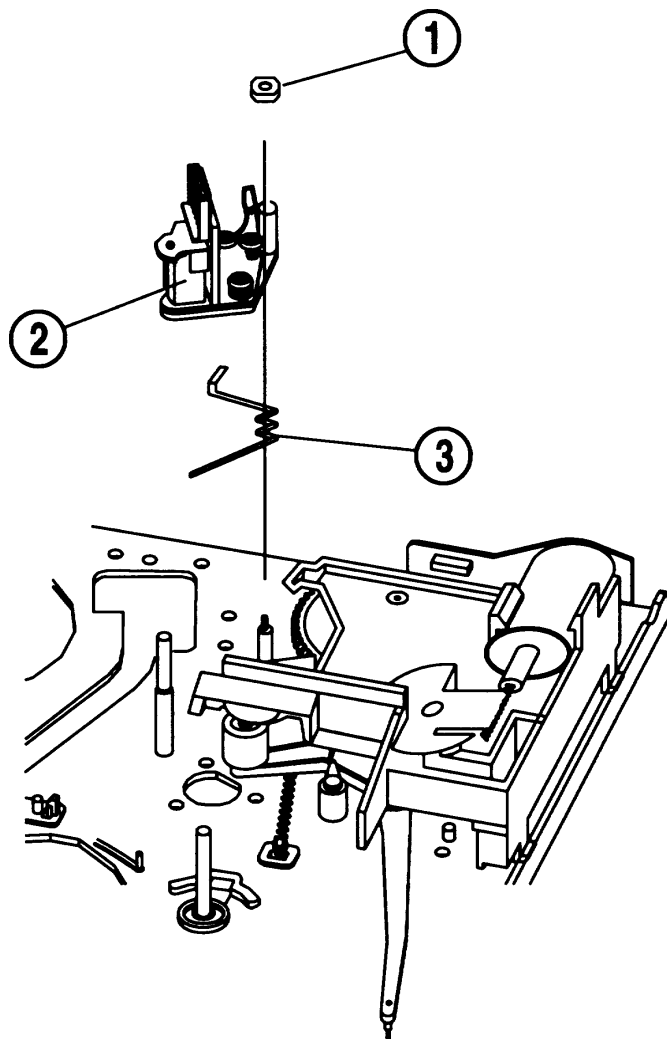

Fig. 19 A/C Head Assembly Removal
MECHANICAL DISASSEMBLY**A/C Head Assembly Removal (Fig. 19, 19-1)**
1. Remove one (1) nut hex from the A/C head assembly (2). (Fig. 19)